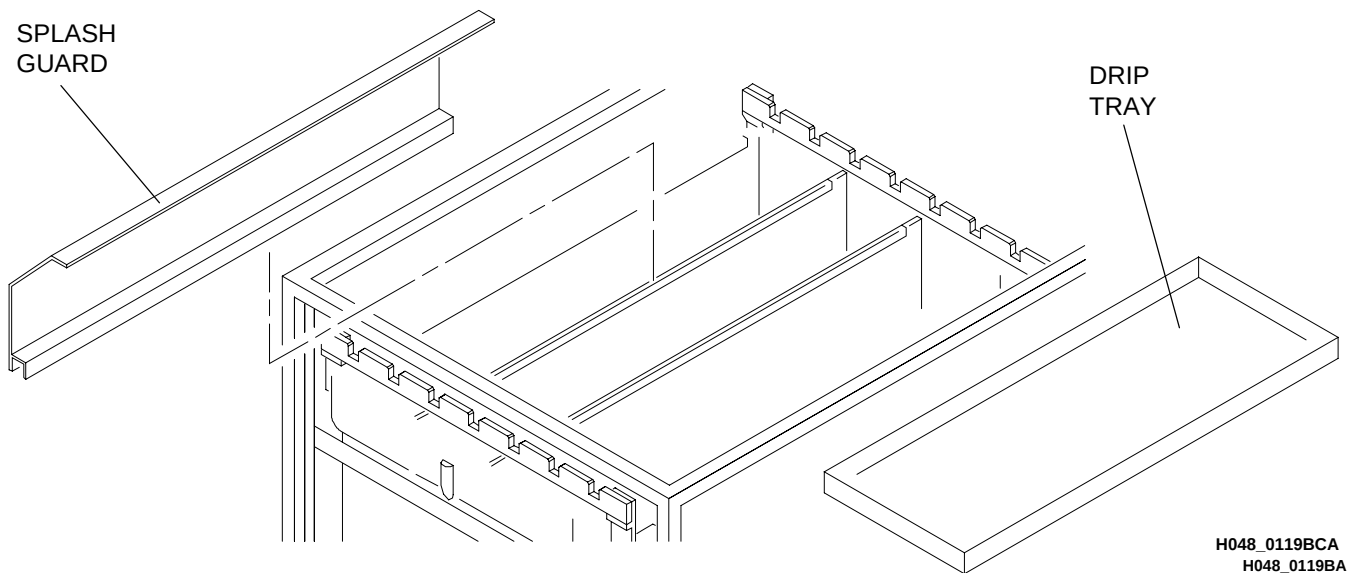

Figure 37 Installing the Splash Guard
- [2] Install the SPLASH GUARD. See Figure 37.